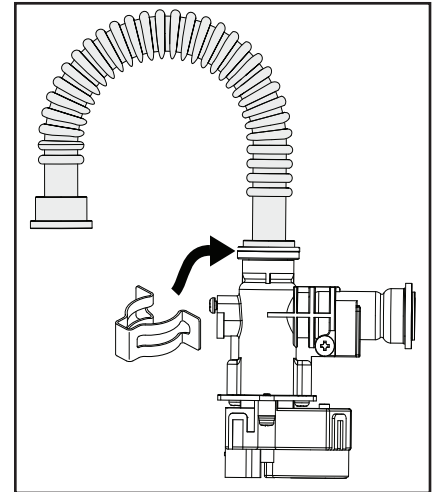

Figure 50 - Install Flex Hose to Smart Valve
- 11 Remove new Smart Valve from service kit. Install male end of flex hose with small O-ring (14.5mm) to Smart Valve outlet as shown in Figure 50.
12 Remove one (1) spring clip from kit. Install spring clip over Smart Valve outlet and flex hose to secure the assembly as shown in Figure 50.